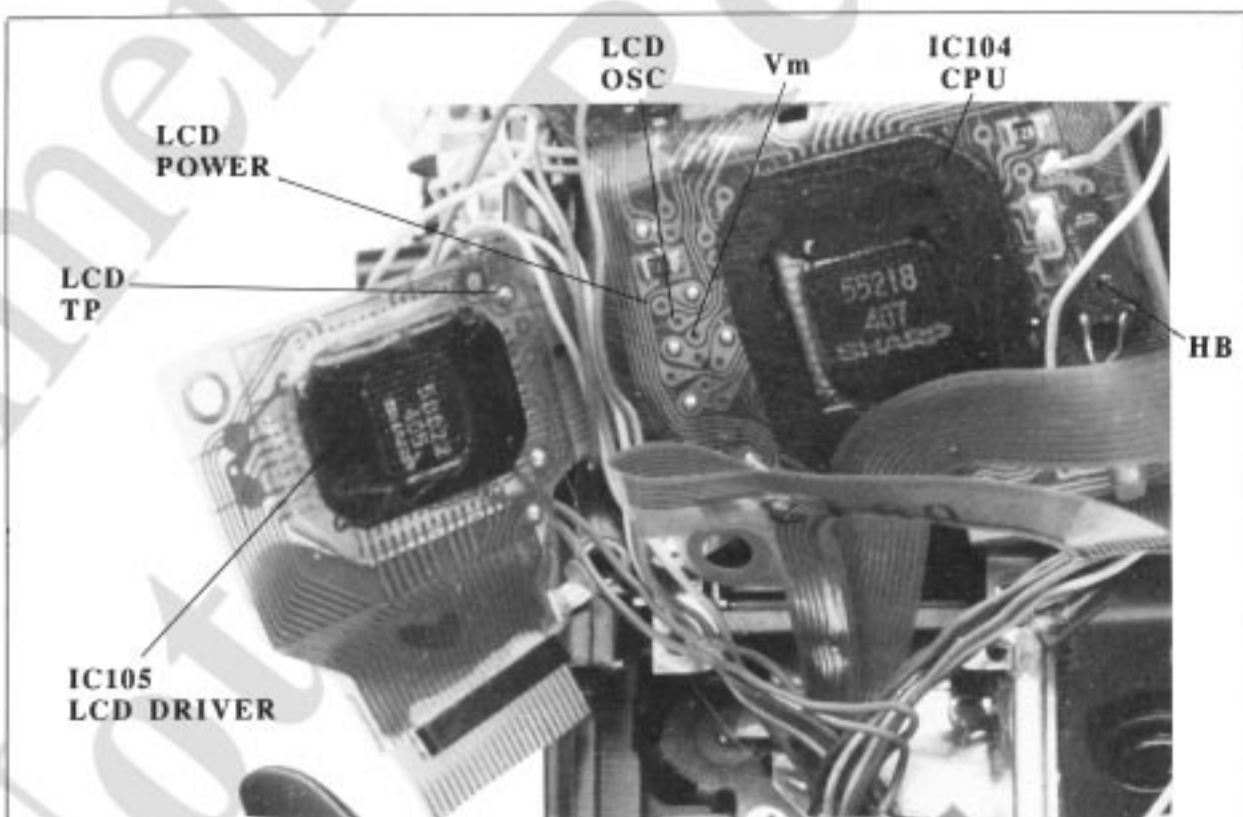

FIGURE 8 - TOP VIEW OF MIRROR BOX, WIND SIDE
4. IC104. CPU, top of main board at wind side, Fig. 8. Includes the oscillator and the D-A converter. Provides the control signals to the I/O IC and the LCD signals to the LCD driver.
5. IC105. LCD driver, underside of board at top, wind side, Fig. 8. Controls the LCD segments according to signals received from the CPU. The I/O IC provides the signals that turn on the LCD driver.